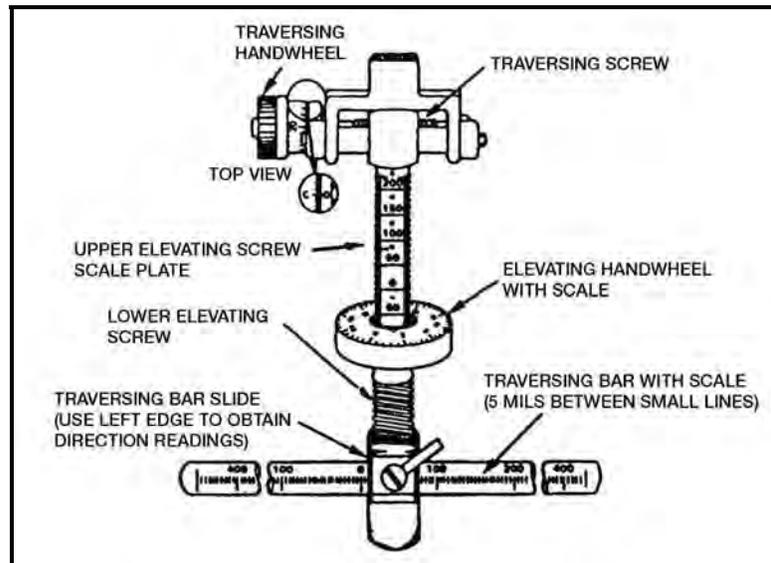

Figure 071-000-0005-4. Traversing and elevating mechanism.
g. Sketch in the secondary sector of fire (E, figure 071-000-0005-1).
(1) Label the range (in meters) from the gun to each target in the secondary sector.
(2) Sketch in aiming and elevation stakes between the gun position and the target as shown in figures 071-000-0005-2 and 071-000-0005-3.
5. Using the T&E mechanism, determine the direction, elevation, and range to each target. Write this information in the DATA SECTION of the range card, as follows (figures 071-000-0005-2 and 071-000-0005-3):
- (1) Lay the gun on the base of the target.
- (2) Read the direction on the traversing bar at the left edge of the traversing bar slide (figure 071-000-0005-4).
- (3) Determine by the direction of the barrel whether the reading is right or left.
- (1) Lay the gun on the base of the target by rotating the elevating handwheel (figure 071-000-0005-4).
- (2) Read the number (including a "+" or "-" sign, unless the number
is "0") above the first visible line on the elevating scale. (In figure 071-000-0005-4, this reading is "-50.")
(3) Read, from the elevating handwheel, the number in line with the indicator. (In figure 071-000-0005-4, this reading is "3.")
6. Record the data you found using the T&E mechanism (figure 071-000-0005-4).
e. Enter the width and depth (in mils) of linear targets. The "-4" in figure 071-000-0005-3, REMARKS block, means that depressing the barrel 4 mils will cause the strike of the rounds to go to ground level along the FPL.